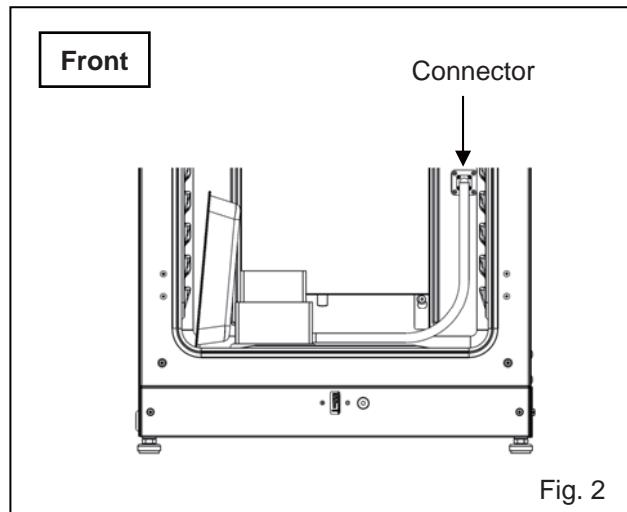

Fig. 2
7. Remove the connector cap from the connector on the bottom right of the far side of the chamber. Connect the H₂O₂ generator and connector by the cable provided (Fig. 2).